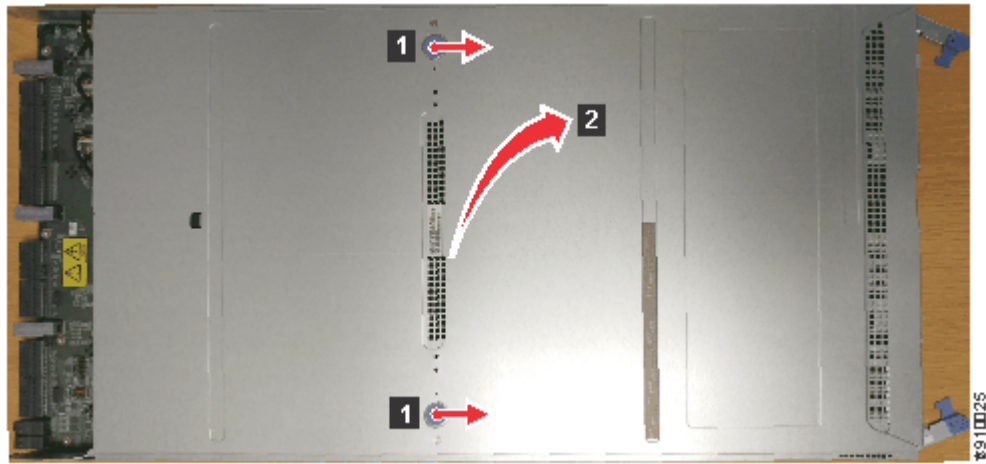

Figure 33. Removing the node canister cover
3. Open the cover of the node canister by depressing the recessed, blue touch points on the lid (1) and sliding the lid away from you (2), as shown in Figure 33 on page 73.